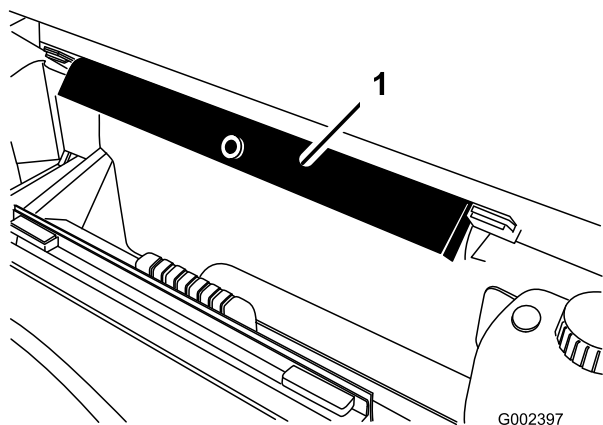

Figure 27
2. Remove the bed support from the storage brackets on the back of the ROPS panel (Figure 27).